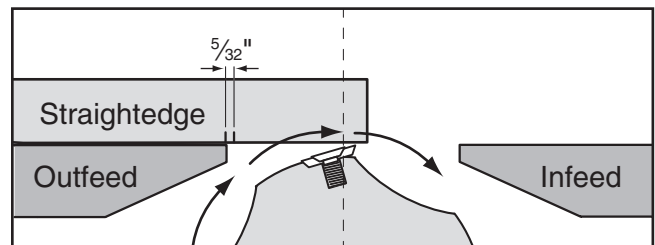

Figure 47. Cutter drags straightedge forward to line up 2nd mark with edge of outfeed table.
- c. Rotate the cutterhead clockwise by hand, watching how far the cutter drags the straightedge forward. Slightly adjust the outfeed table height until the cutter drags the straightedge forward enough to line up the second mark with the edge of the outfeed table, as shown in **Figure 47**.